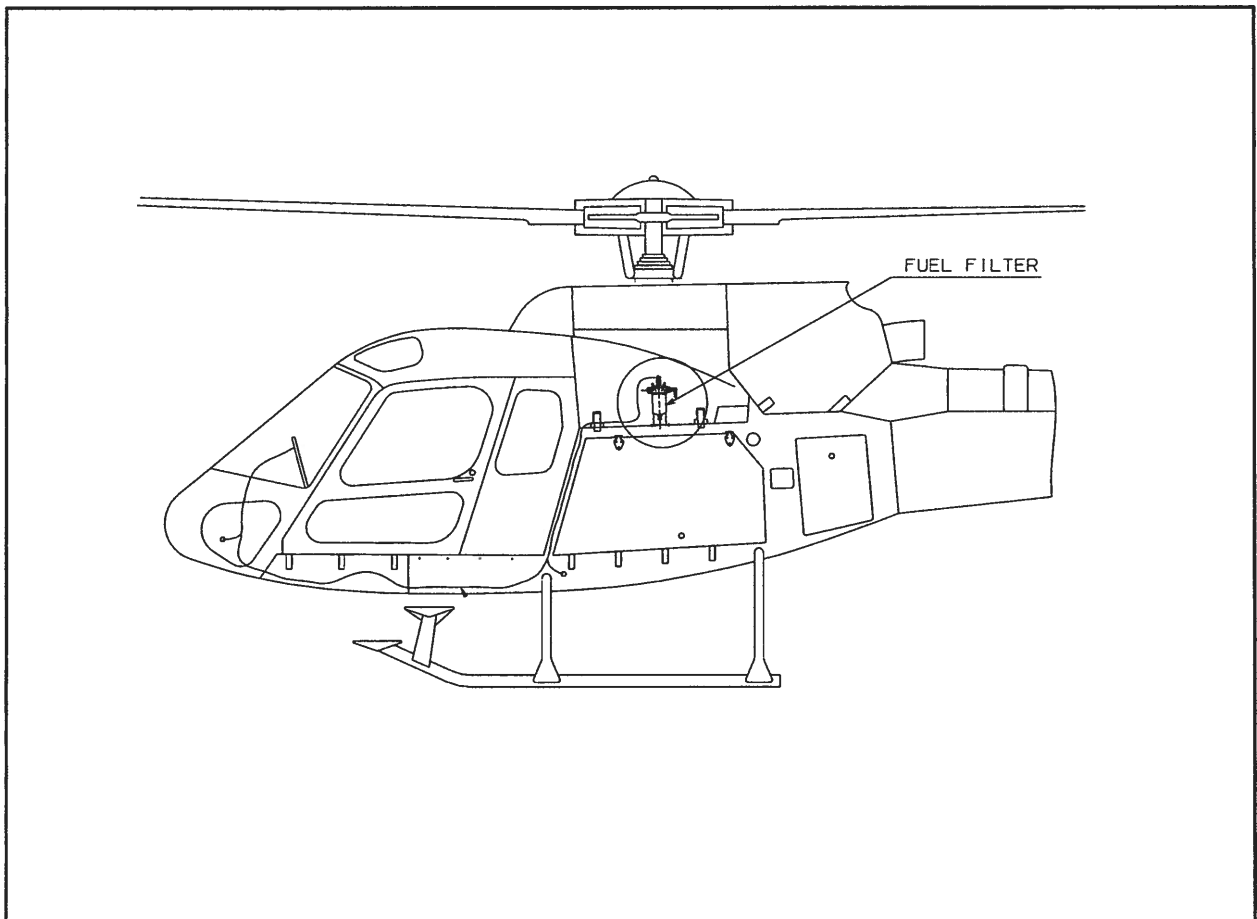

Figure 1 General Layout
- A. The Airframe Fuel Filter is installed in the fuel line between the fuel tank and the engine and provides extra protection against fuel contaminants. The filter contains a bypass valve and a bypass delta pressure switch. An annunciator light in the cockpit is provided to warn the pilot that the filter is becoming blocked. Refer to Figure 1 for General Layout.